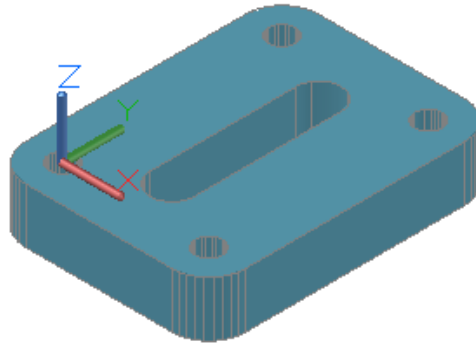

Figure Step 15
Step 15 Set the current visual style to Realistic. Your model should now appear as shown in the figures. Using the ORBIT command, orbit the model to ensure the holes go through the model. (Figure Step 15)